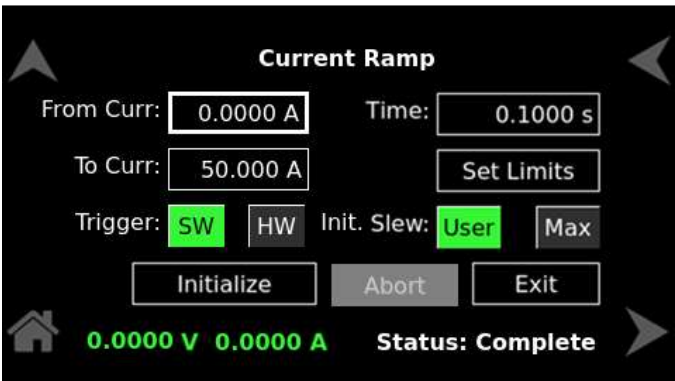

Figure 8-81. Status- Completed
f) **Complete:** When the ramp execution (bringing the voltage from ‘From Curr’ to ‘To Curr’) is completed. Refer to Figure 8-81.